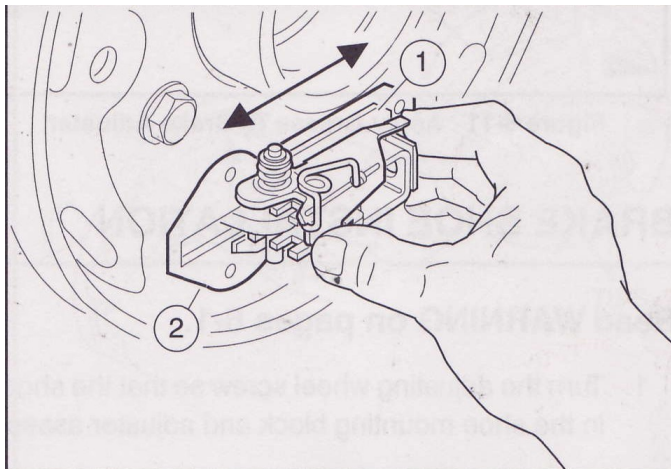

Figure 6-8
3. Lubricate the slide (1) and slide plate (2) with dry moly lubricant on both sides of the backing plate (Figure 6-8). After lubricating, work the slide back and forth to ensure that it slides smoothly and easily. Reinstall rubber boot onto backing plate.